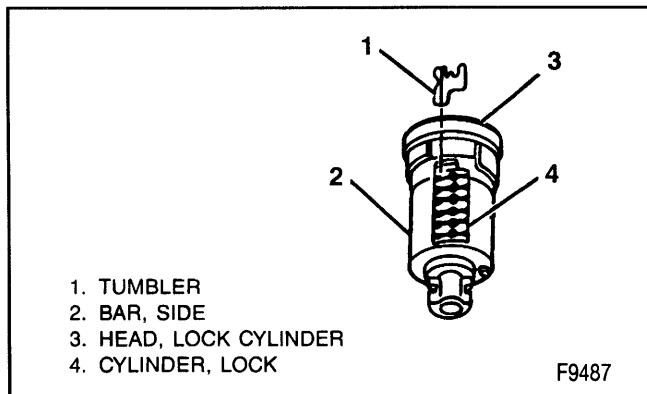

Figure 19—Installing Tumblers
Assemble (Figures 19 and 20)
2. Starting with position one (the open end or head of the cylinder), insert tumblers in their proper slots in the order called for by the code (figure 19).